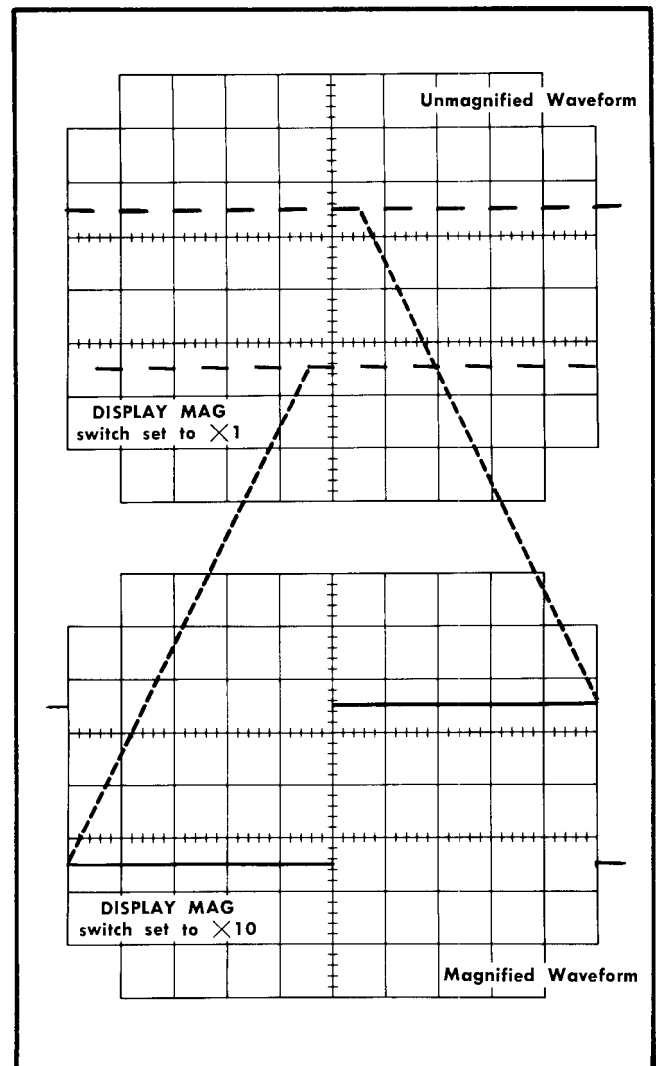

Fig. 2-10. Operation of display magnifier.
The displayed sweep is magnified ten times by setting the DISPLAY MAG switch from  $\times 1$  to the  $\times 10$  position. In the  $\times 1$  position the center one-centimeter portion of the unmagnified display is the portion visible on the CRT in magnified form (see Fig. 2-10). Note that the display expands equally to each side from graticule center. Equivalent length of the magnified sweep is 100 cm. Thus, any 10-cm portion of the display can be viewed by adjusting the horizontal POSITION control to bring the desired portion into the viewing area. The light located near the DISPLAY MAG switch is on whenever the switch is set to  $\times 10$ .
**Mode 1: B Sweep Starts Automatically After Delay Time.** In this mode of operation the B sweep starts approximately 150 ns following the delay time (see Figs. 2-10 and 2-13A). Since the delay time is the same for each sweep, the display will appear stable. Basically the setup is as follows: